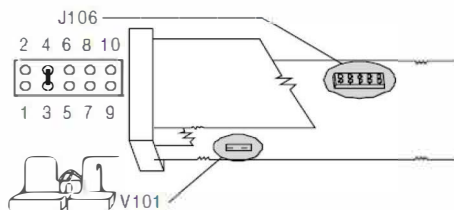

Figure 1.
- Open V101 switch for Basic/Advanced Configuration (Figure 1)
- Close V101 switch after Basic/Advanced Configuration (Figure 1)